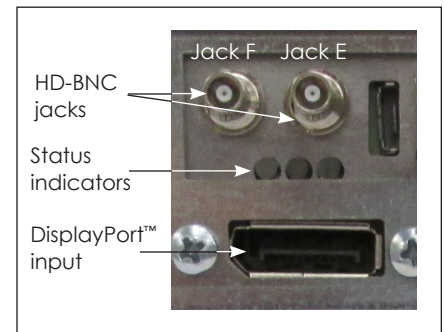

Figure 5: Coax & DisplayPort™ Inputs
1. For V-Max™ 4 or HD/3G SDI signal input, connect one end of the coax cable to one of two HD-BNC jacks. Refer to **Figure 5** and the contract-specific drawings.
2. For DisplayPort™ input, connect one end of the DisplayPort™ cable to the DisplayPort™ input port. Refer to **Figure 5**.